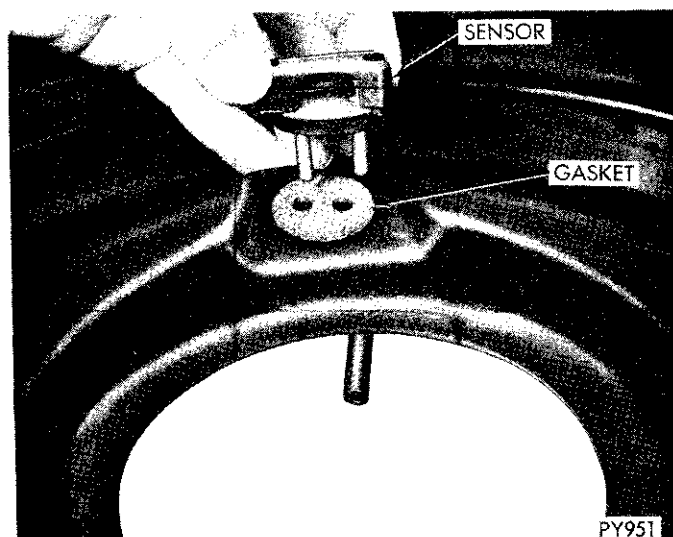

Fig. 9—Installing Gasket and Sensor
(1) Position gasket on air cleaner housing and install sensor (Fig. 9).
(2) Supporting sensor on outer diameter, install new retainer clips securely being sure gasket is compressed to form an air seal. **Supporting sensor on plastic guard could damage bi-metal strip. No attempt**